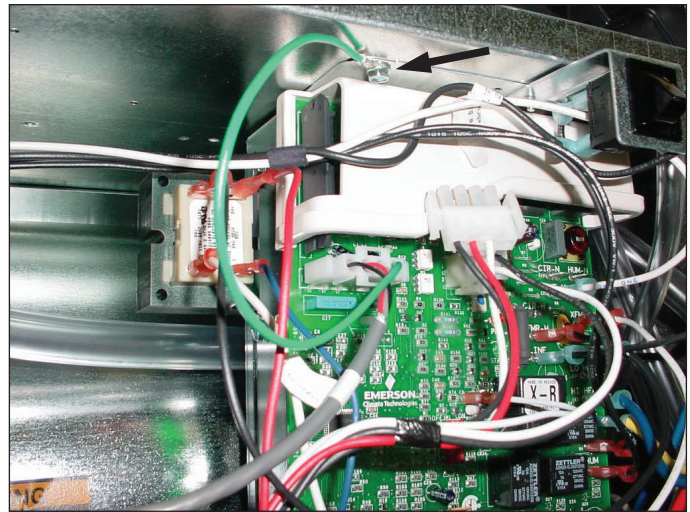

FIGURE 3 UPFLOW
7. Locate the end of the shielded cable harness labeled "CONTROL END" and connect the 4 pin connector to the control. Secure the Green ground lead found on the 4 pin connector to the sheet metal control mounting platform using one of the existing mounting screws. See Figure 3.